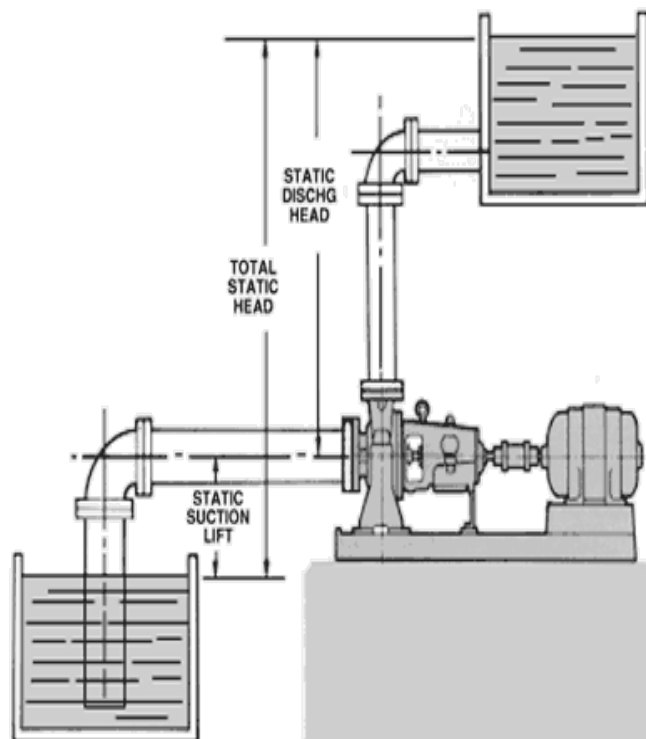

Figure Q.4.[c].
- [c] A fluid at 85°F is pumped through the system shown in Figure Q.4.[c] at the rate of 100 gpm. The specific gravity of fluid is 1.22, and its vapour pressure is 1.44 psi. The reservoir is at atmospheric pressure of 14.7 psi. The fluid level below pump centerline is 5.2 feet. The friction head is known to be 3.54 feet. If the pump manufacturer specifies a required NPSH of 18 feet, will the pump be suitable for this service?